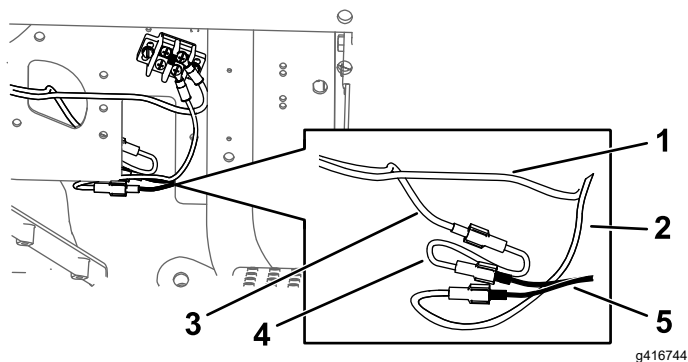

Figure 15
- A. Connect the power-adaptor harness to the wire harness (Figure 15).